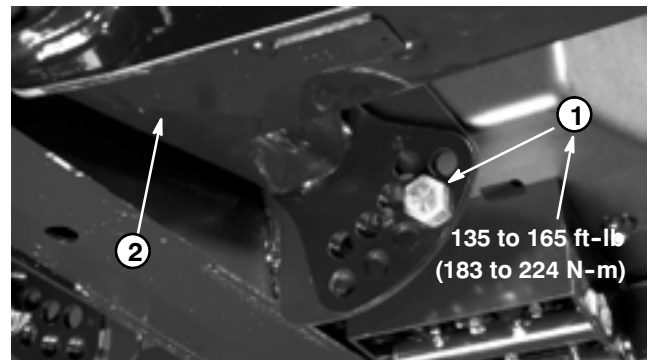

Figure 5
5. Remove ride height adjustment bolt (Fig. 5).